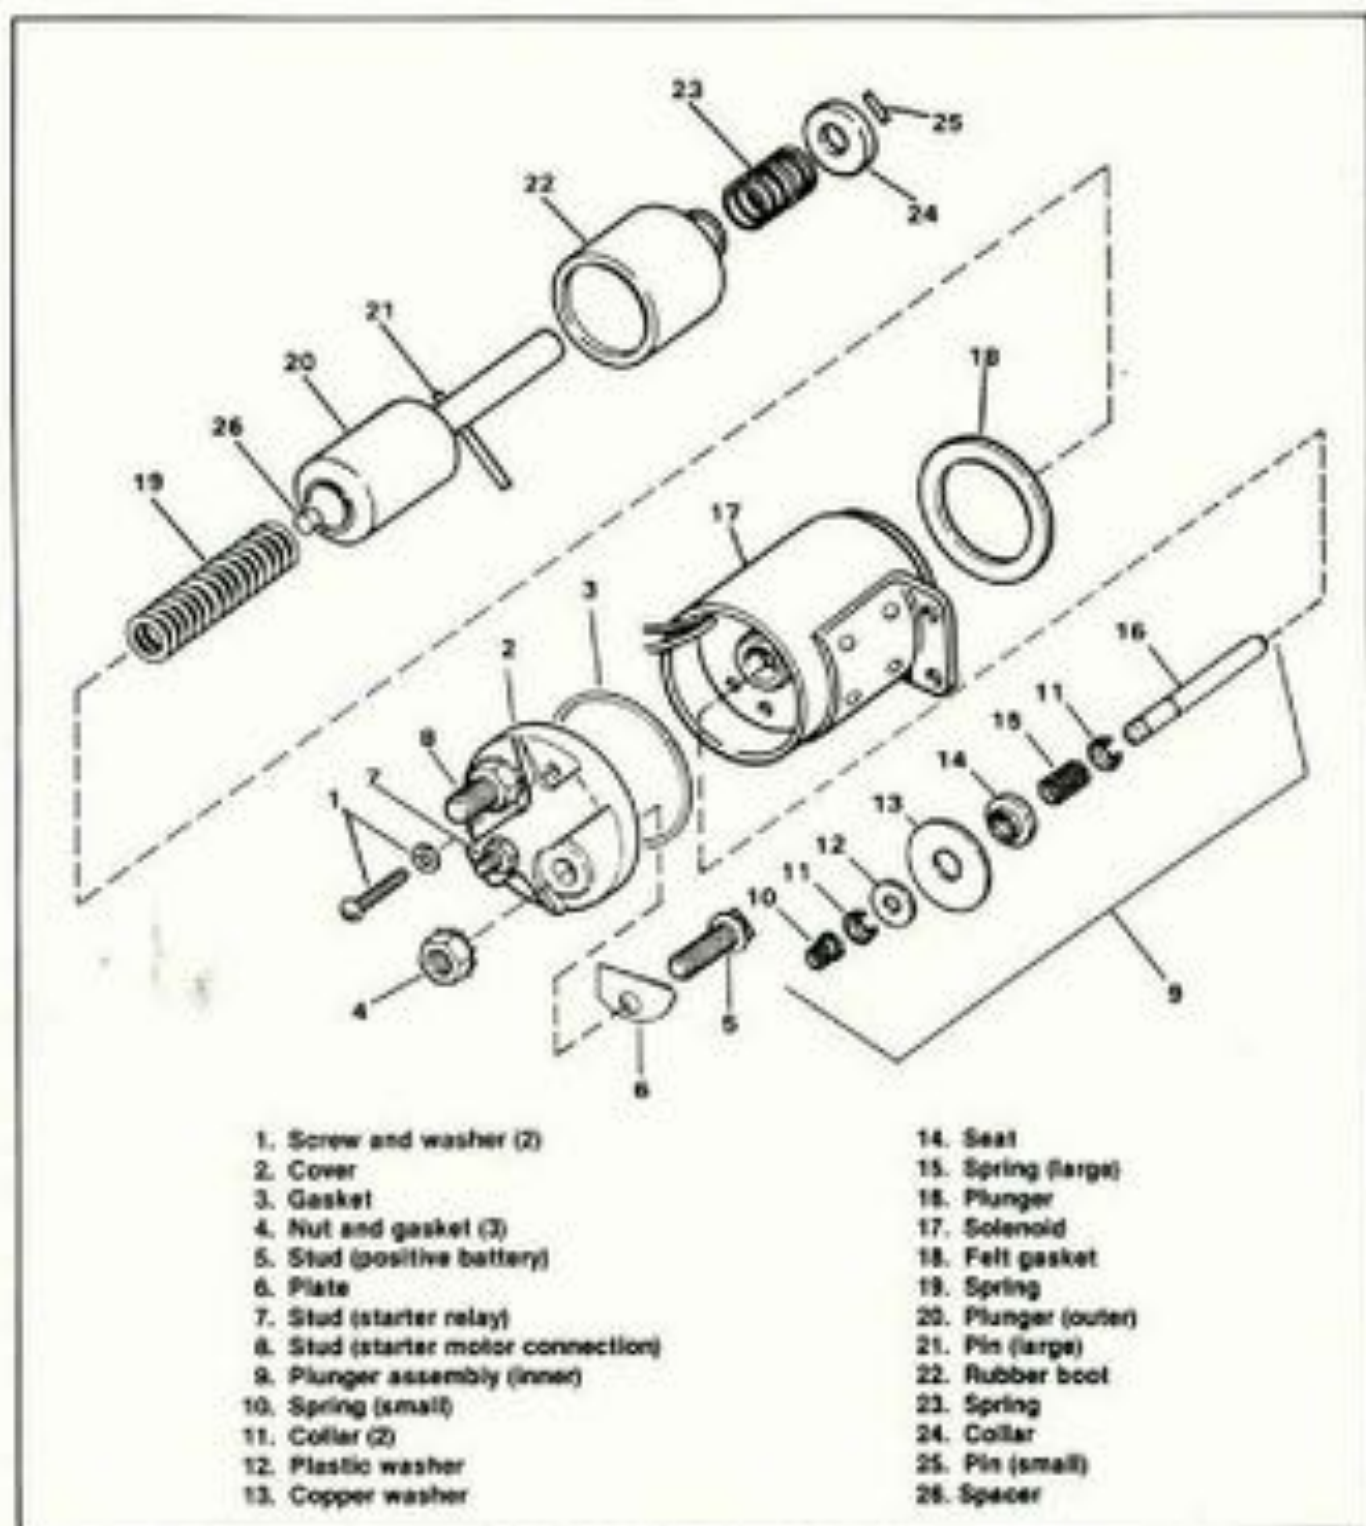

Figure 5-24. Solenoid — Exploded View
## DISASSEMBLY (Figure 5-24)
## CLEANING, INSPECTION AND REPAIR (Figure 5-24)
## ASSEMBLY (Figure 5-24)
1. Be sure gasket (18, Figure 5-24) is in good condition and install solenoid to primary cover with spacer (5) between solenoid and cover. Tighten mounting bolts (4) to 12 ft-lbs torque.
2. Install battery positive cable (1) to LONG solenoid stud. Place lockwasher under cable end.
3. Install starter motor cable (2) to SHORT solenoid stud. Place lockwasher under cable end.
4. Install starter relay wire (3) to small solenoid stud. Place lockwasher under wire end.